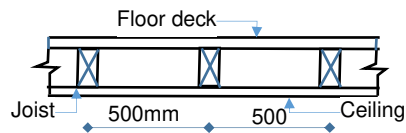

Figure 5
8. A suspended timber floor has members as shown in figure 5. Using timber of strength class C16, design the timber floor joists given the following data: